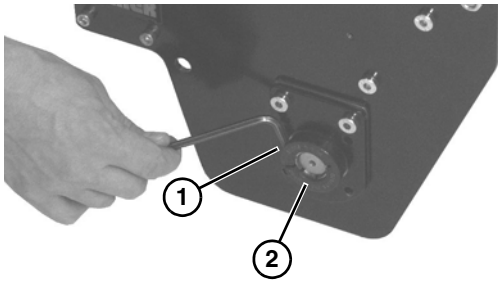

Figure 34
7. Loosen the bearing collar set screw (**Figure 34, item 1**) and remove bearing collar (**Figure 34, item 2**).
8. Remove three socket head screws (**Figure 34, item 1**), and remove plate and drive terminal assembly (**Figure 34, item 2**) from drive spindle (**Figure 34, item 3**) and crossmember (**Figure 34, item 4**).
9. Remove drive spindle (**Figure 34, item 3**), from opposite side plate and drive terminal assembly (**Figure 34, item 5**).